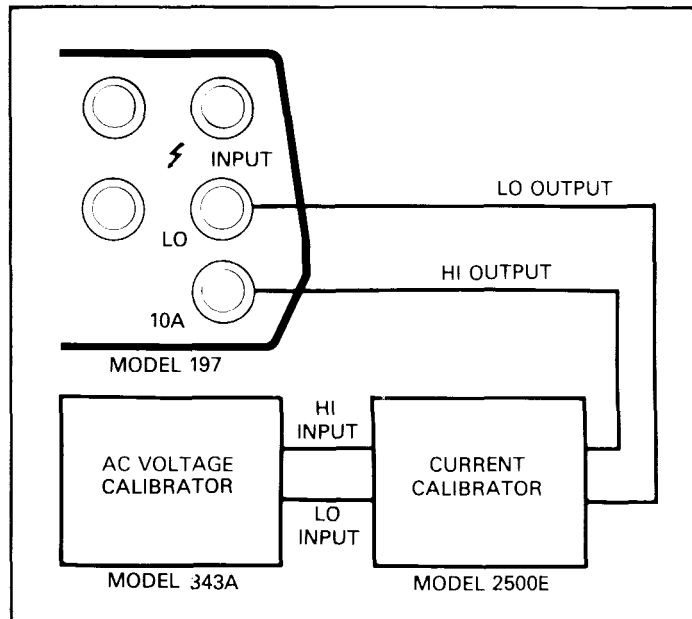

Figure 3-8. Connections for AC Current Verification (2000mA to 10A)
8. Connect the calibrator to the Model 197 10A and LO terminals as shown in Figure 3-8. Change the Model 197 to the 10A range.